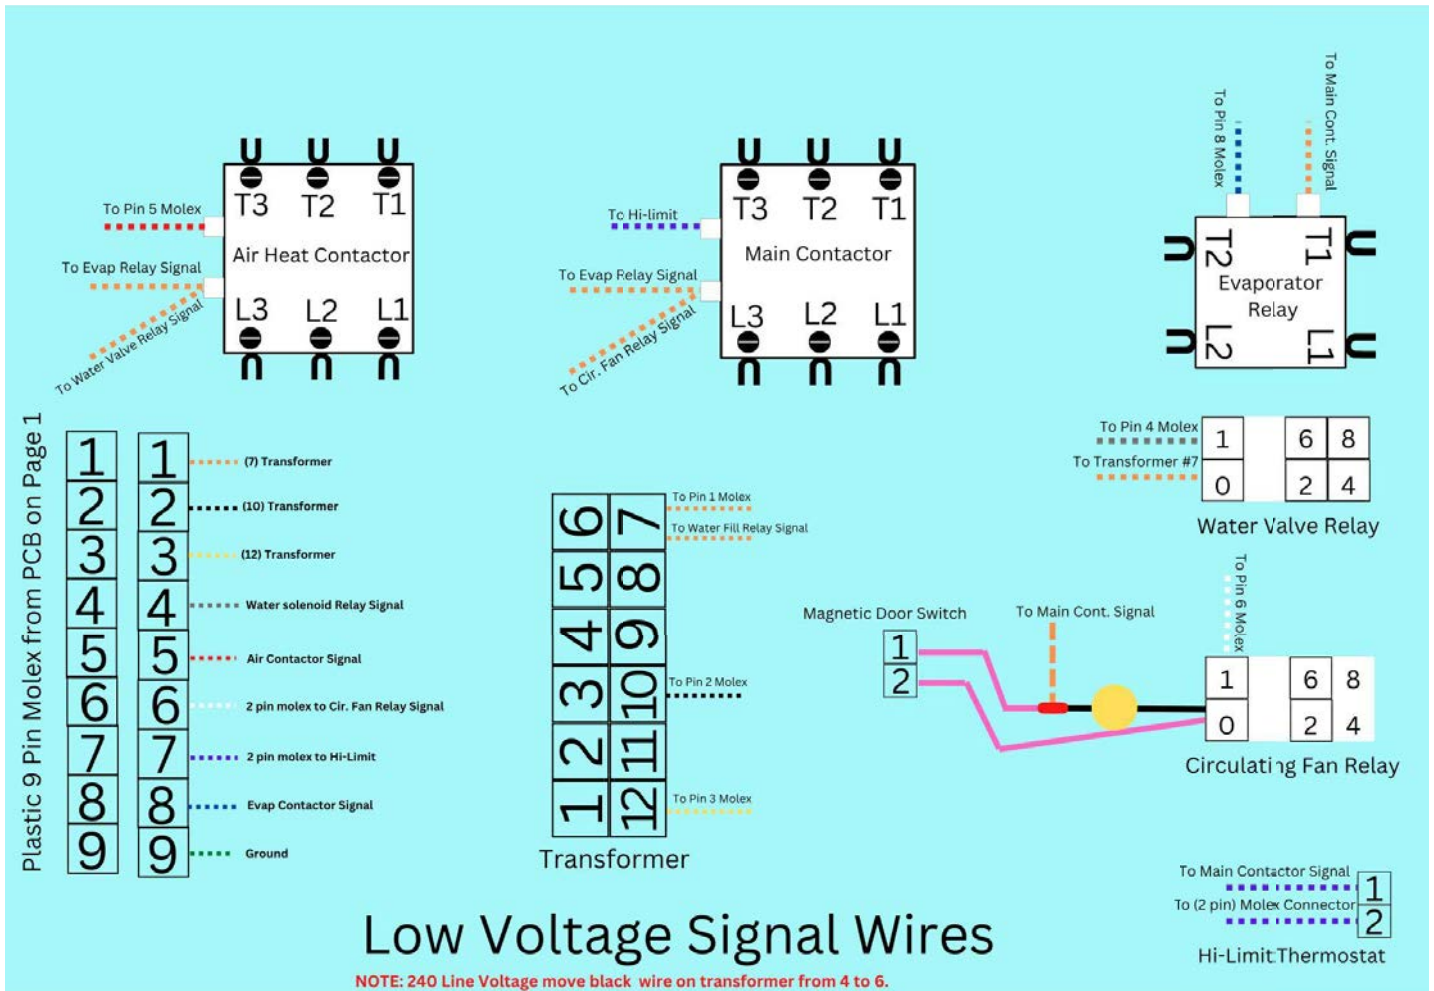

Fig.173
45. Verify that the unit is working correctly and is heating up.(Fig.173)